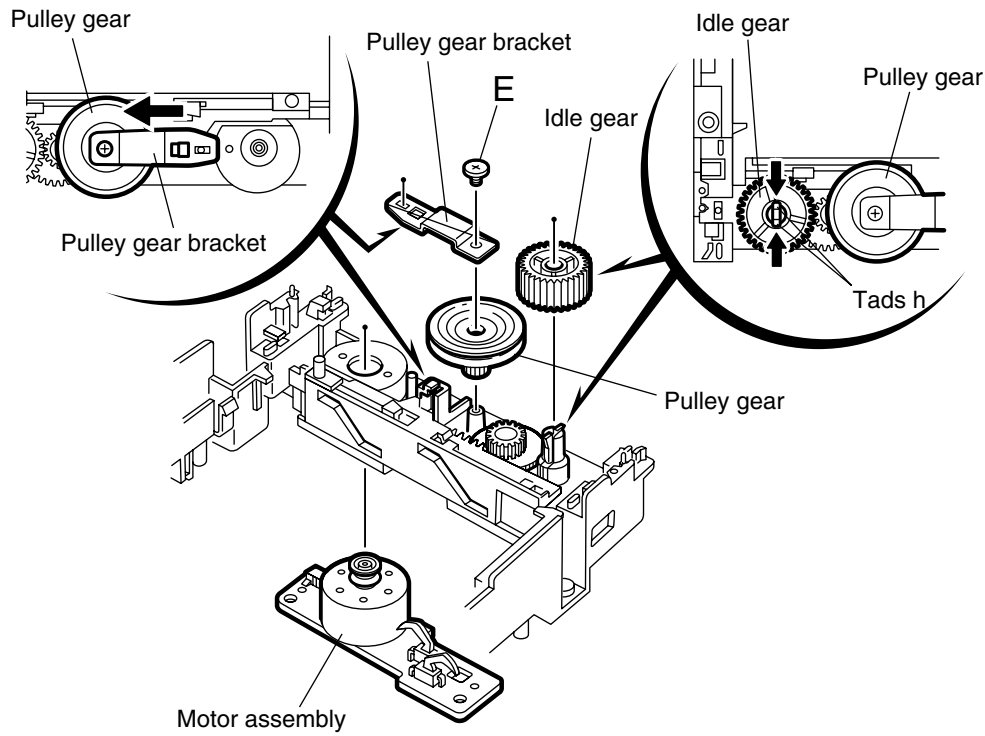

Fig.10
■ **Removing the Idle gear / pulley gear / middle gear / slide cam (See Fig.10 to 12)**